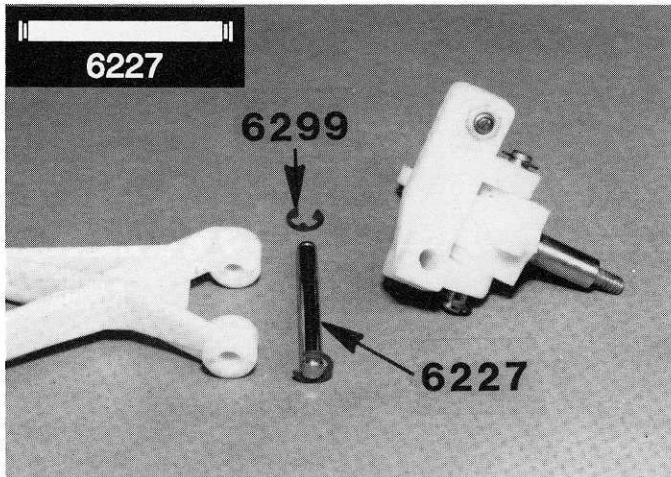

Fig. 8
□ **Figs. 8 & 9** Again from Bag 7-1, try one of the #6227 outer hinge pins in the outer end of the #7206 left hand front A-arm. Your front and rear a-arms may be in a separate, un-numbered bag. (The left hand and right hand sides of the truck are determined like this: with the driver sitting in the driver's seat, on the driver's left hand is the left hand side of the truck and on his right hand is the right hand side of the truck.)